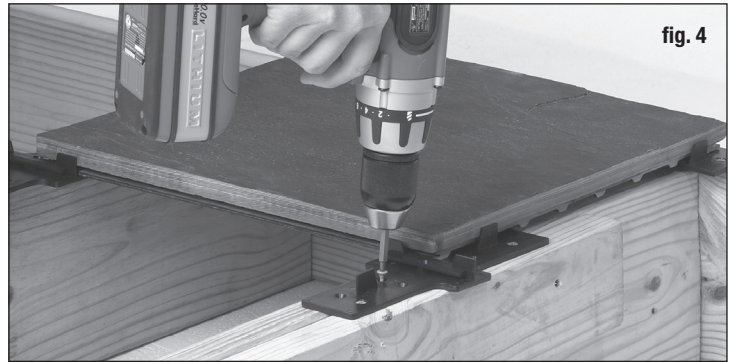

fig. 4
- Put a screw into the joist connector hole and into the joist below (fig. 4). Place two more screws, staggered, in remaining exposed holes (three screws per joist connector).